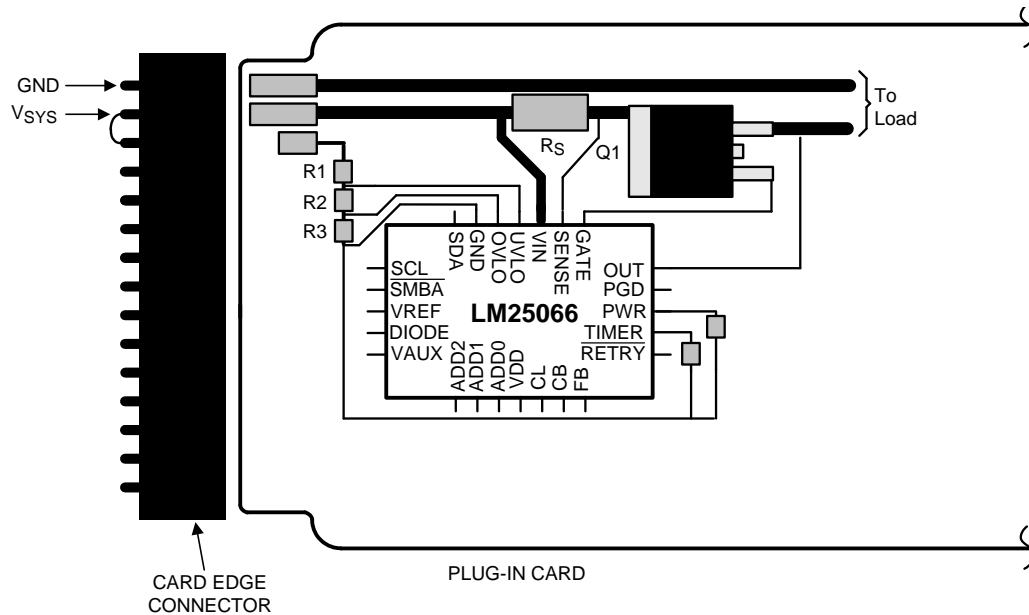

Figure 56. Recommended Board Connector Design
- The board's edge connector can be designed such that the LM25066 detects via the UVLO/EN pin that the board is being removed and responds by turning off the load before the supply voltage is disconnected. For example, in Figure 56, the voltage at the UVLO/EN pin goes to ground before  $V_{SYS}$  is removed from the LM25066 because of the shorter edge connector pin. When the board is inserted into the edge connector, the system voltage is applied to the LM25066's VIN pin before the UVLO voltage is taken high, thereby allowing the LM25066 to turn on the output in a controlled fashion.